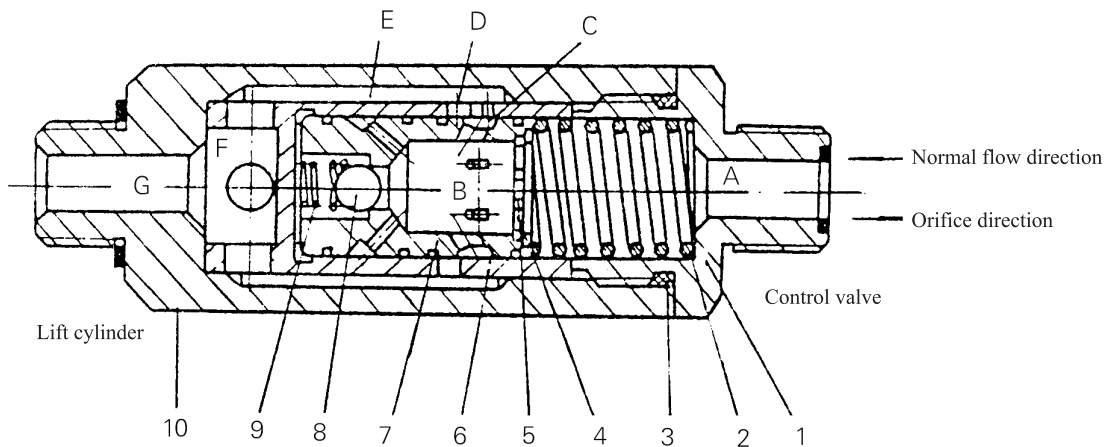

Fig.9-10 Flow regulator valve
The flow regulator valve, located in the lift cylinder circuit to limit the descending speed of loaded forks, has the construction as shown in Fig.9-10. When the lift spool is placed in the “lift” position, the oil from the control valve flows through the oil chambers A and B, oil holes C, D, E and F, and the chamber G to the lift cylinder without any regulation. When the lift spool is placed in the “down” position, the oil flows in the reverse direction. When the oil passes the orifice plate(5) and a pressure difference generates between the chambers A and B, the pressure